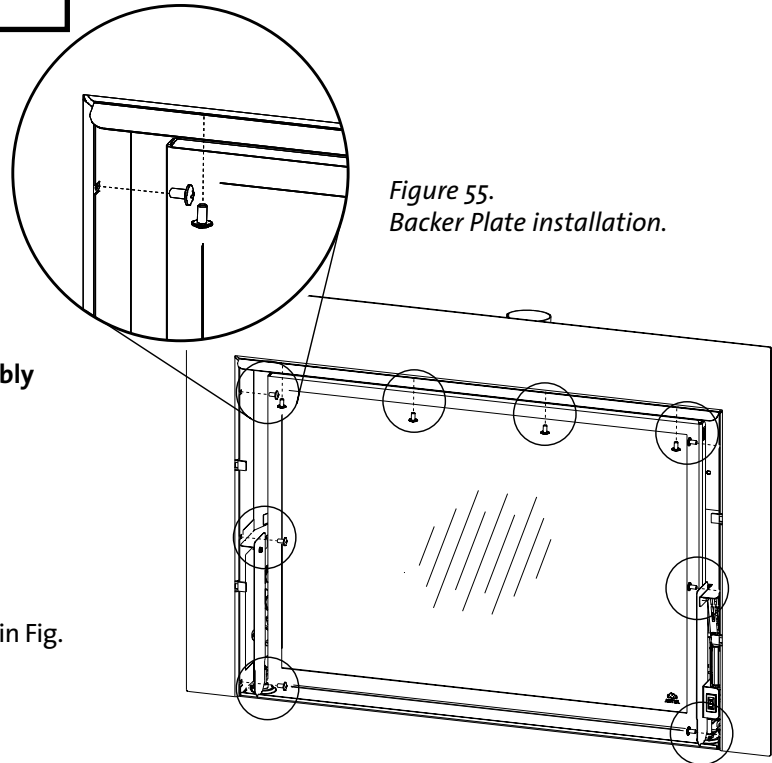

Figure 55.
1. Loosely attach the Backer Plate to the insert firebox using the ten, M6 x 8 phillip head screws as shown in Fig. 55. Tighten the screws in an alternating pattern.